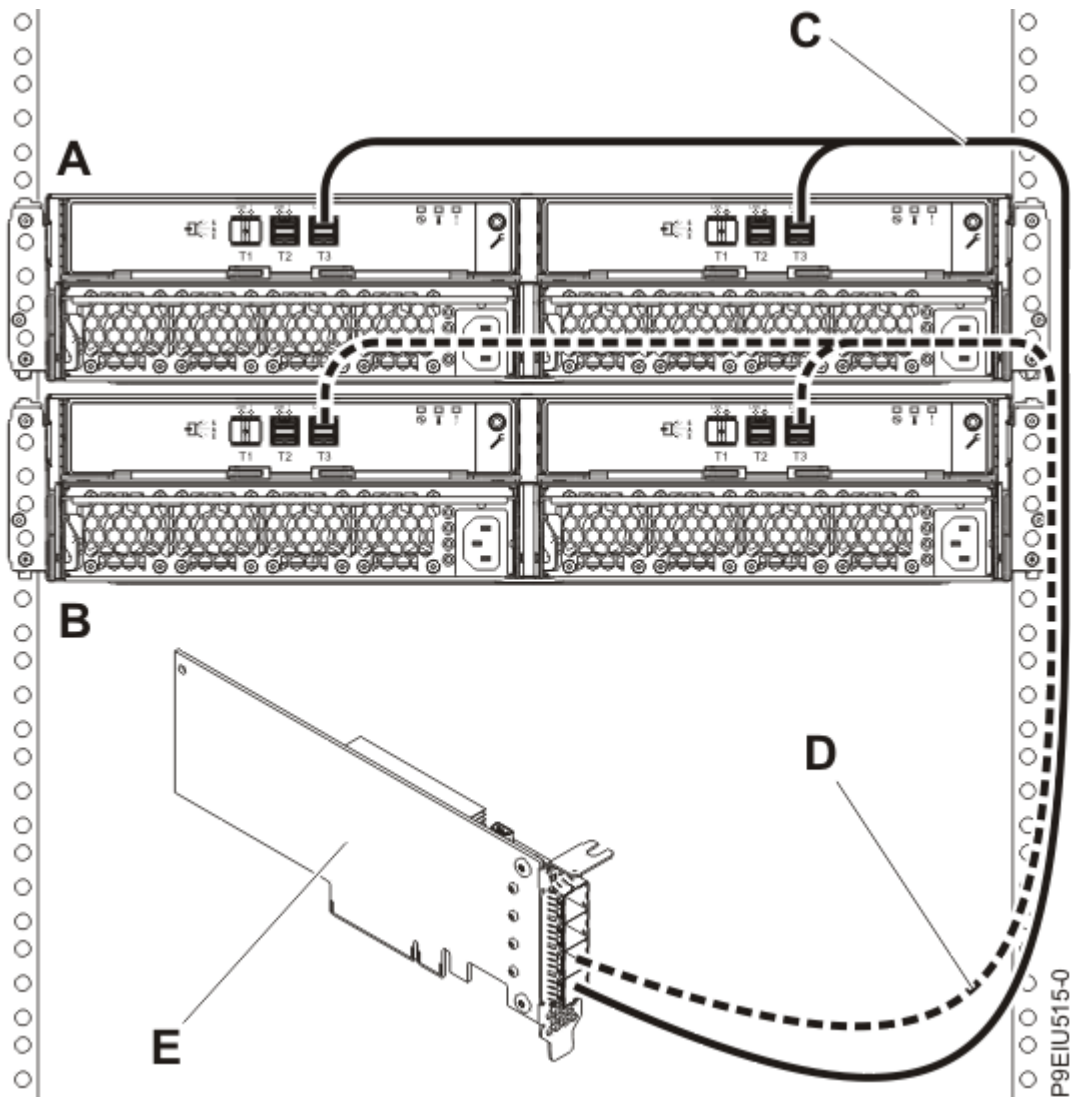

Figure 14. Mode 1 connection of two ESLL or ESLS storage enclosures by using YO12 cables to a single FC EJ0J, FC EJ0K, or FC EJ0M SAS adapter
14. Then, complete a mode 1 connection of two enclosures (**A and B**) by using YO12 cables (**C and D**) to a single FC EJ0J, FC EJ0K, or FC EJ0M SAS adapter (**E**), as shown in Figure 14 on page 19, and then continue with “Connecting cables, power cords, and installing covers” on page 29.